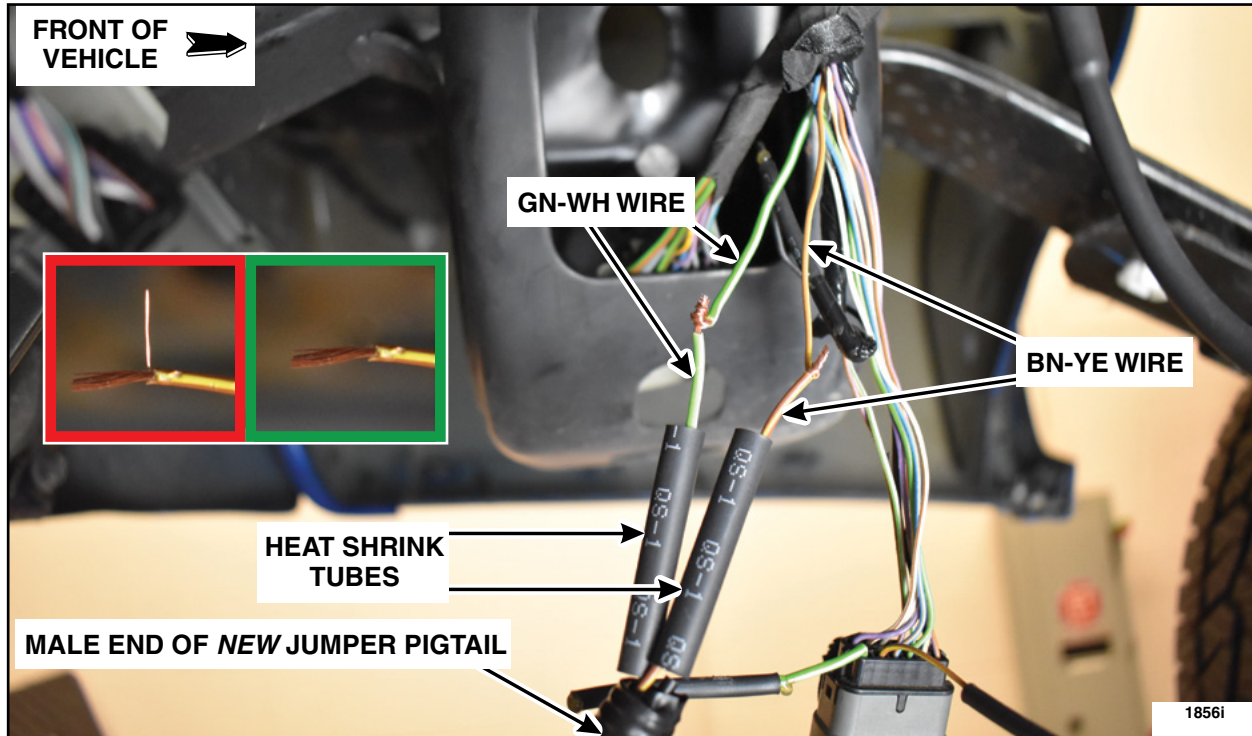

FIGURE 11
- Place a heat shrink tube onto each GN-WH and BN-YE wires. Install the male end of the *new* jumper pigtail to the corresponding wire colors of the male end of the vehicle harness by twisting the exposed wires together. See Figure 11.